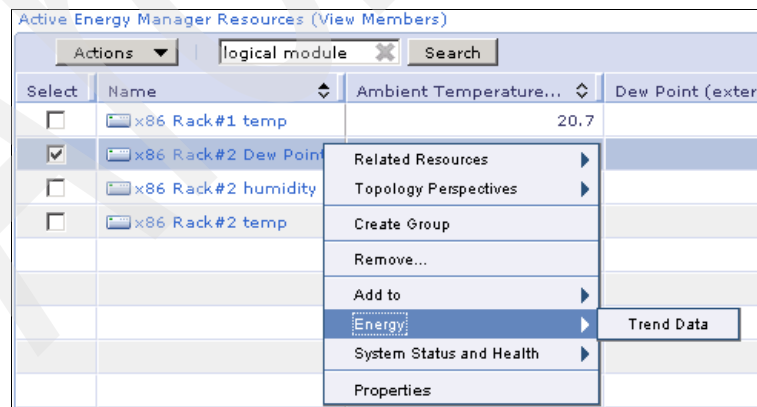

Figure 9-31 Viewing sensor trend-data in a chart
1. Right-click the name of sensor logical module (in this example **x86 Rack#2 Dew Point**) and then select **Energy** → **Trend Data**, as shown in Figure 9-31.